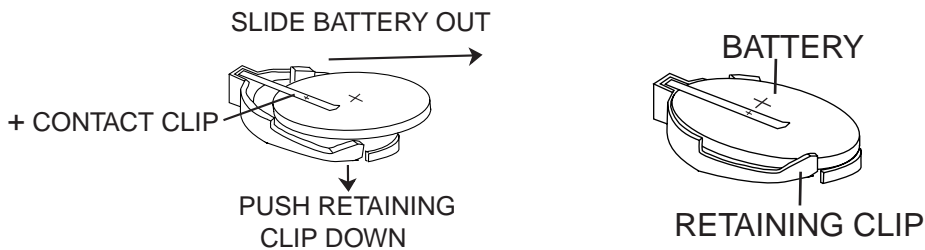

Figure 4-1. RTC Battery Removal/Installation.
4. The Real-Time Clock, (RTC) battery is a 3V lithium "coin" cell. The recommended battery type is CR2032. Refer to figure 4-1. Remove the old battery as shown by pressing down on the Retaining Clip and sliding the battery up and out of the holder.